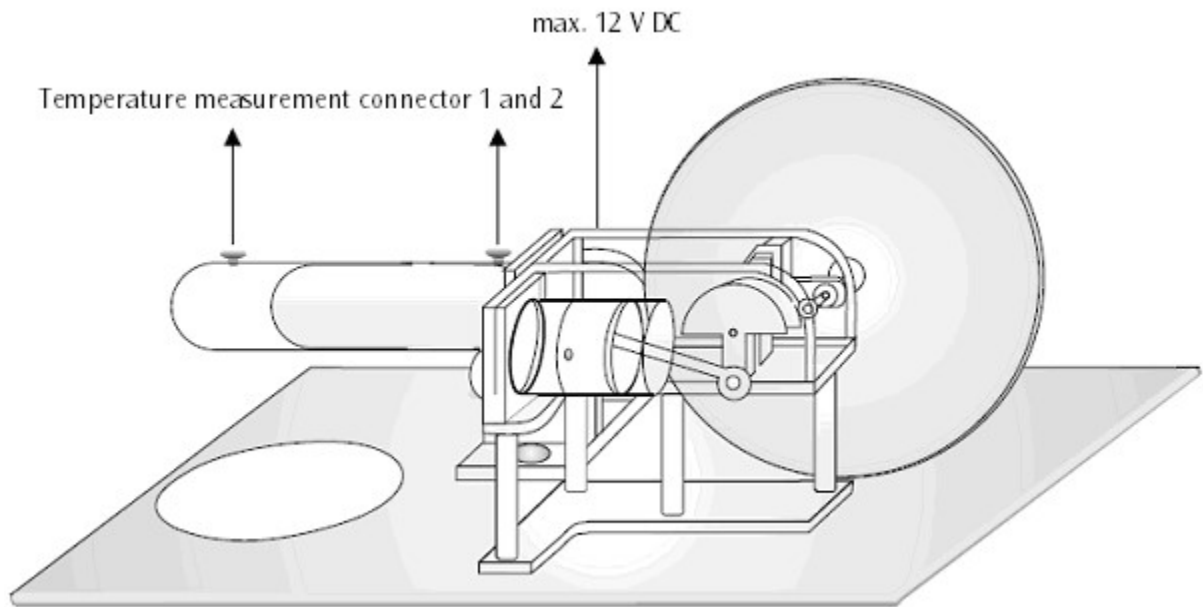

Fig. 3 The Stirling motor as a heat pump or refrigerator
- Insert temperature sensors into the thermometer sockets and connect them to a measuring instrument (see fig. 3).